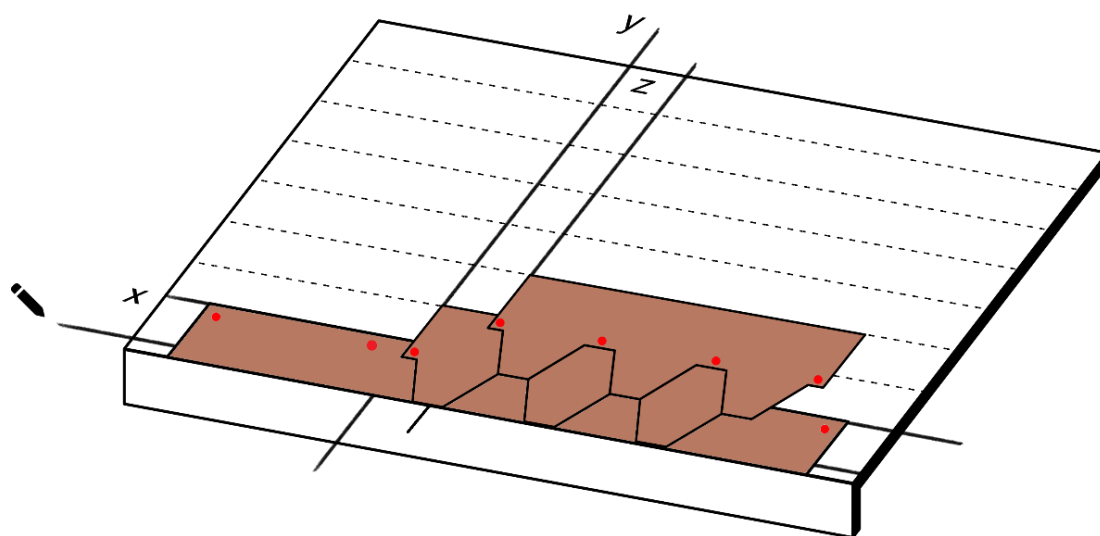
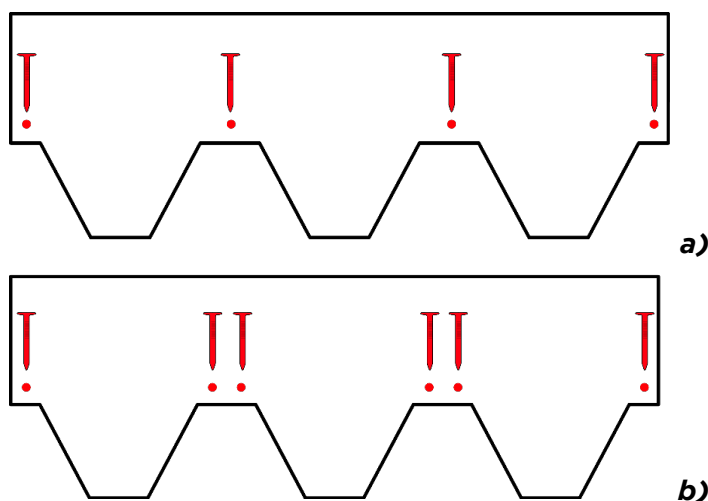

Fig. 7 - Shingles installation
Fig. 8 - Shingle nailing **a)** slopes <60°; **b)** slopes >60°
- Apply over the membrane/underlayer a bead of bituminous adhesive Bitustick close to the gutter line - Fig. 7;
- Proceed with the installation of the first row of shingles: align the lateral edge of the first shingle on the vertical **z** and the upper edge on the horizontal 14,3 cm from **x** - Fig. 7. Nail the shingle to the substrate by placing 4 nails per shingle, as per Fig. 8 a). In the event of pitched slopes between 60° and 85°, place 2 additional nails close to the second and third nail, for a total of 6 nails per shingle, as per Fig. 8 b). Proceed by placing all the shingles in the first row.